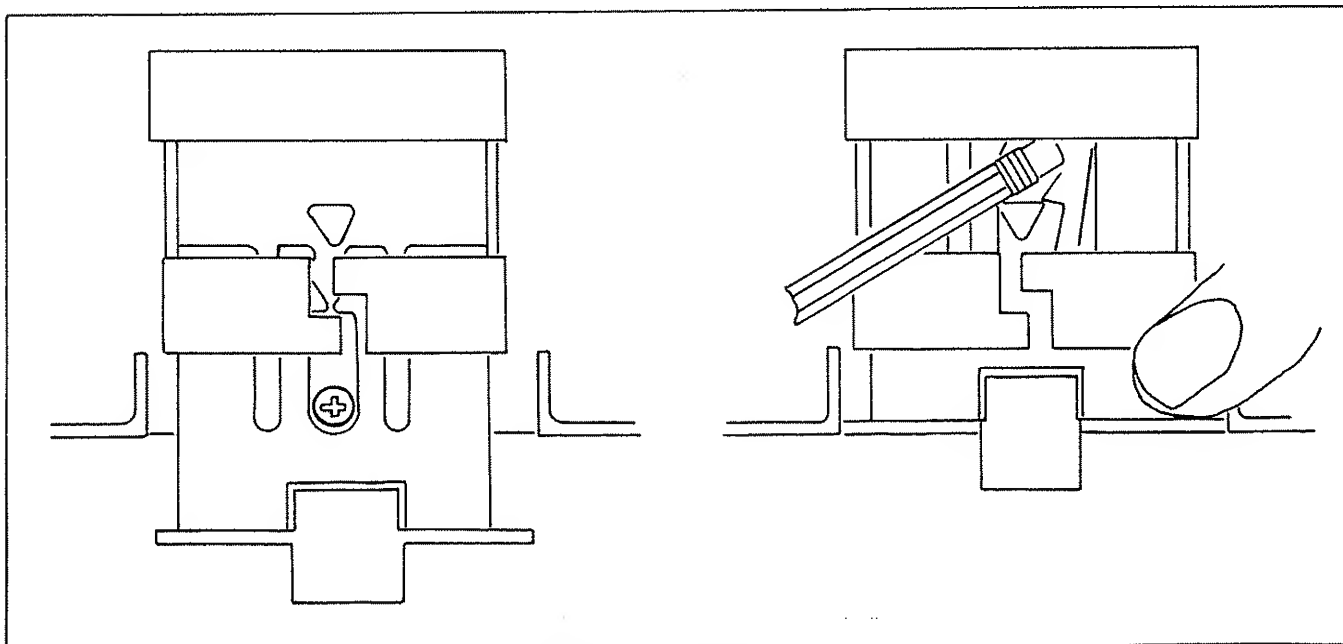

Figure 4-1. Latch Removal
2. On the case bottom, remove the six securing screws. Two of these screws will be found in the middle of the case along the side, under the latches. To access either middle screw, as shown in Figure 4-1, alternately push the two latching rails away from the triangular stop. Pull the latch out far enough to reveal and remove the screws.